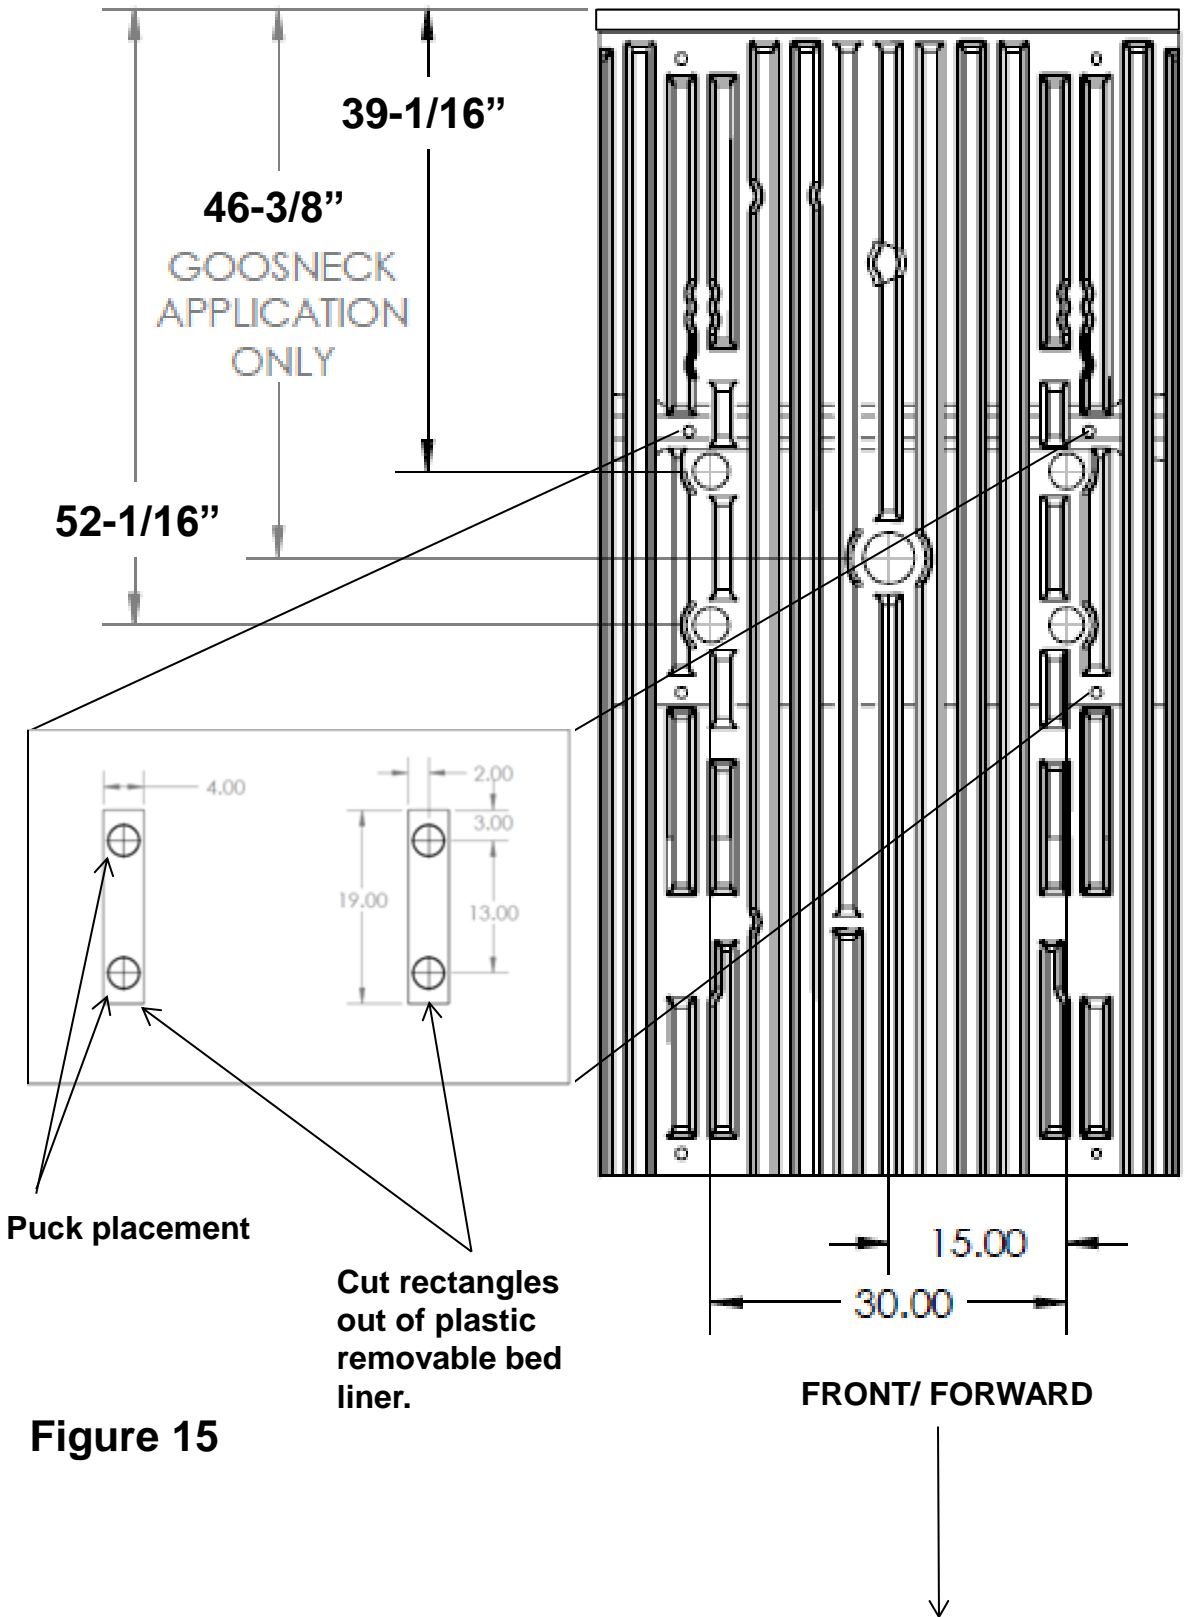

Figure 15
- Remove plastic bed liner if applicable.** Plastic drop-in bed liners will be cut later. (See **Figure 15**) Spray-in bed liners and bed mats less than 1/4" thick will work with normal installation instructions. **Note:** Consult installer for recommended curing time on spray-in liner before cutting holes through bed.
- Drill 1/8" pilot holes in truck bed at outer dimpled locations (approximate dimensions of **Figure 15**). The middle dimple is for the goose ball only. (See gooseneck instructions if applicable.) These dimpled locations are placed by the factory. If dimples are not present, refer to (**Figure 15**) located on page 9. Use a 2 3/4" hole saw to cut hole at pilot holes. **Note:** Consult installer for recommended curing time on spray in liner before cutting holes through bed. **Optional:** Spray under coating around 2 3/4" holes to prevent rusting.